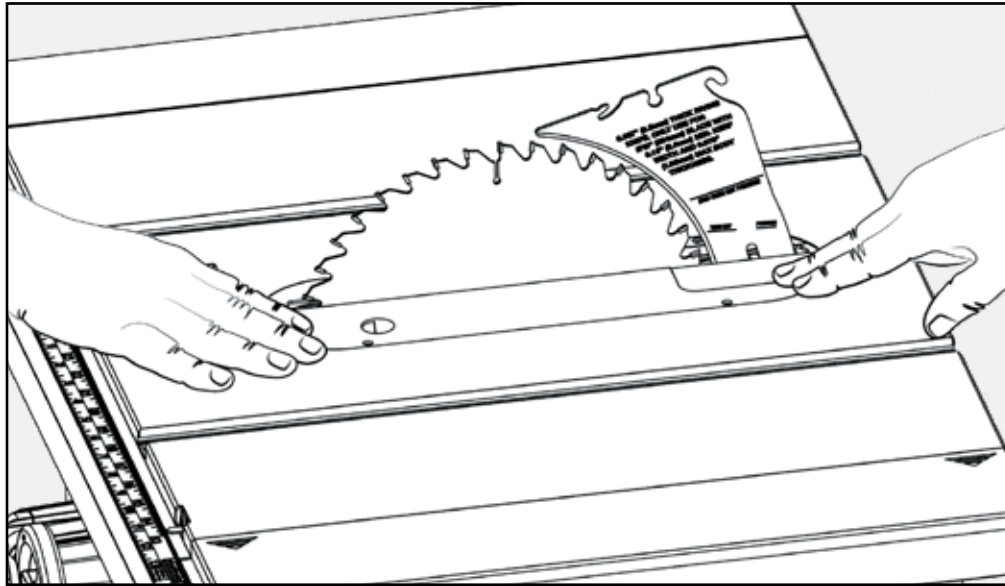

FIGURE 17
Level the throat plate to the table top using (4) flat head screws. See Figure 17 and 18. For more details about leveling throat plate, see page 32.